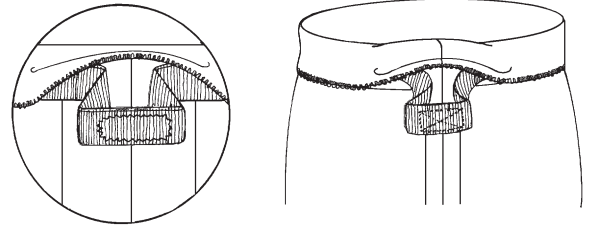

Fig. 12-10
6. Overlap the elastic ends 1 inch (2.5 cm). Machine-stitch the overlap securely in a square pattern. (Fig. 12-10)